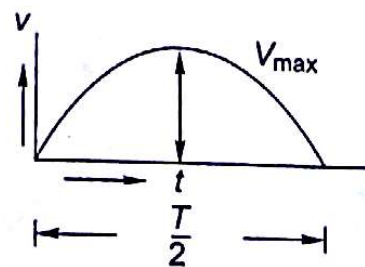

Fig. 10.9
- 10.6 The velocity time diagram is a sine curve shown in Fig. 10.9. How much distance is travelled by a particle in half cycle as shown?